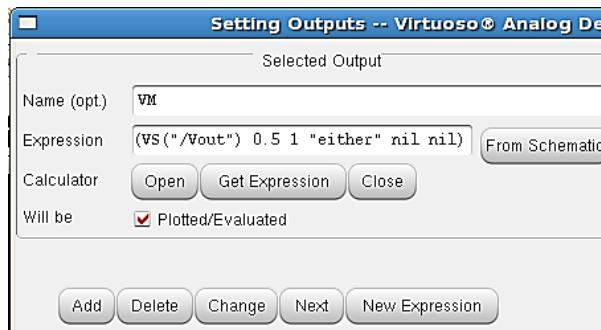

Figure 4.6: Switching voltage expression for W_p variations
6. Switch back to the **setting output** window and click **Get Expression** to reflect the setting as in Fig.4.6.